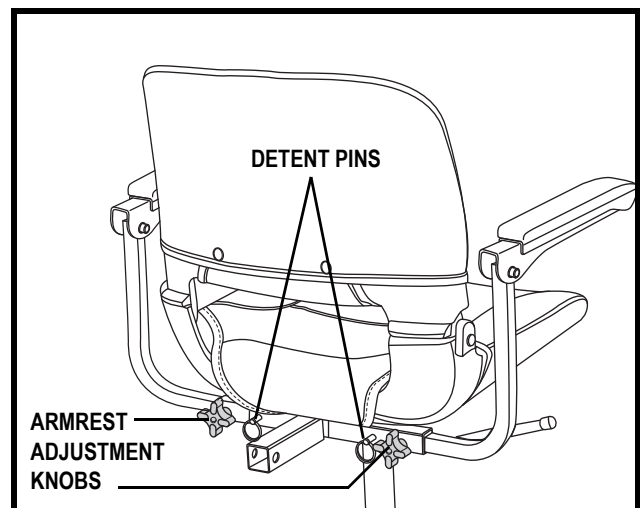

Figure 16. Armrest Width Adjustment
1. Loosen the armrest adjustment knobs. See **figure 16**.